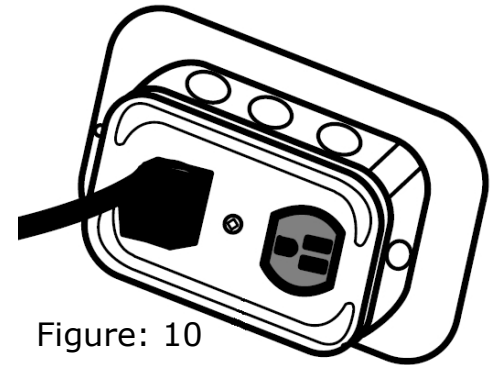

Figure: 10
Step 7: Plug 3-Prong Plug into Junction Box (120v power supply). (Figure: 10)